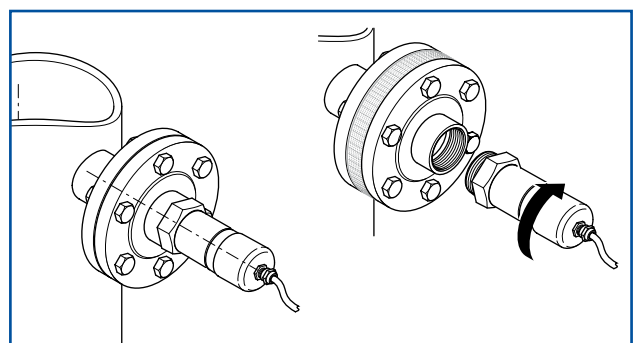

Fig. 5: Mounting with separating flange
- for high-temperature and high-pressure applications with a separating flange (fig. 5)